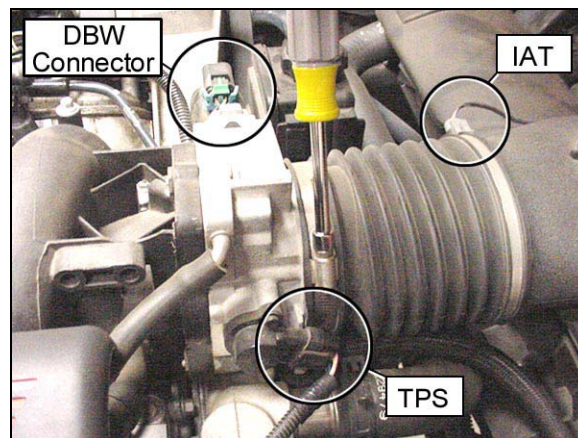

Figure 4
2. Unhook the inlet air temp (IAT) sensor in the air tube, TPS connector, and DBW connector on the throttle body (Figure 4).
3. Using an 8mm nut driver, loosen the air inlet flex tube on both ends (Figure 4). Remove the flex tube.